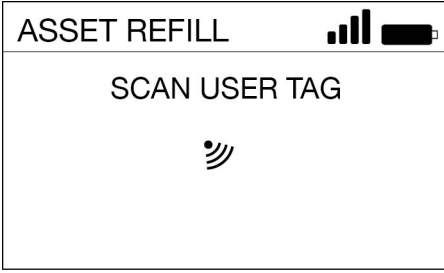

FIG. 26
3. Scan the user identification tag (NFC fob) (FIG. 26).